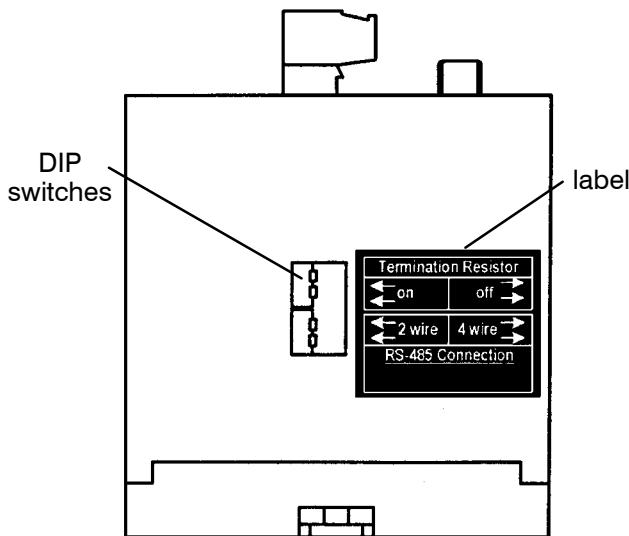

Figure 4. Termination resistor DIP switches on bottom of Serial Module. Must be ON for ATS farthest away from the host device.
4. When daisy chaining multiple ATSs, the ATS that is the **farthest distance** from the controlling device must have a termination resistor. The Serial Module has a built-in termination resistor that can be connected by moving two DIP switches to ON. See Figure 4.